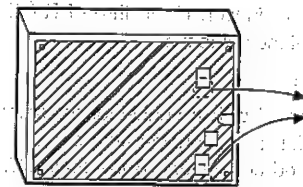

Fig. 5
- ① Choose a flat table.
- ② Lay down the drawer so that the left side faces downward.
- ③ With the cushion areas of the fixtures directed to the drawer bottom, insert them in two holes at the left side (looking from the front) so that the drawer bottom plate can be inserted in the U-shaped grooves of the fixtures. These fixtures must be fitted in the same direction and level. (See Fig. 5)